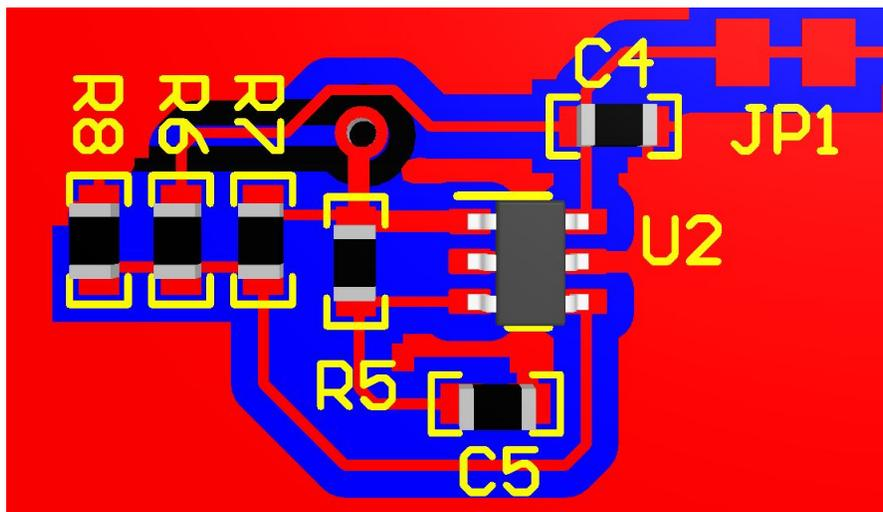

图 73. Oscillator Circuit Layout Example
- To minimize supply noise, place a decoupling capacitor (0.1- μF ceramic, surface-mount capacitor) as close as possible to V_S as shown in Figure 73.